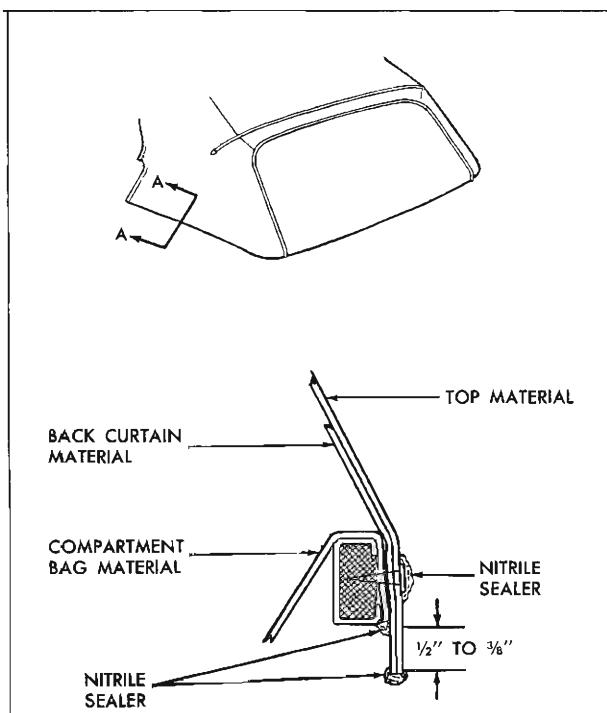

Fig. 21-52 Sealing at Trim Sticks
44. Remove trim sticks with attached top material from top compartment well. Back curtain should extend $\frac{1}{2}$ " below trim sticks on Pontiac & Tempest styles. (See step 9 of installation procedure.) In addition, top material must extend $\frac{1}{2}$ " to $\frac{5}{8}$ " below trim sticks on Pontiac & Tempest styles, to minimize water wicking on inner lining of back curtain material. (See view "A-A" in Fig. 21-52). Trim top material as required.
45. Apply convertible top sealer (nitrile) onto all trimmed edges, around each tack head and around each trim stick attaching bolt hole. See view "A-A" in Fig. 21-52.